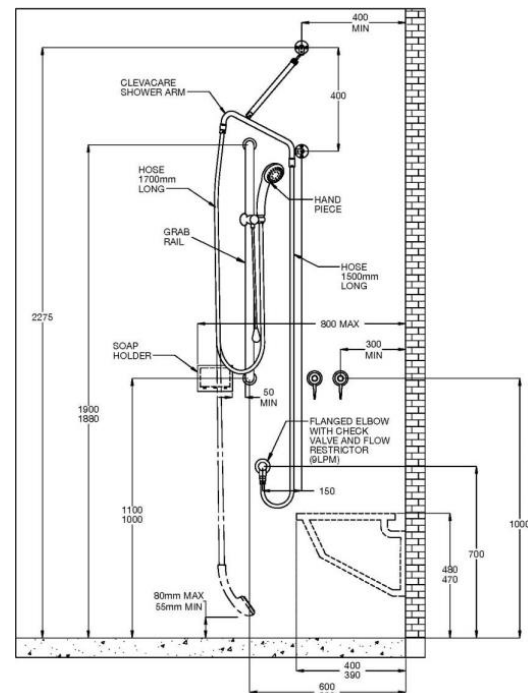

Figure 3
2. Figure 3 shows a Clevakit typical installation conforming to AS1428.1-2009.